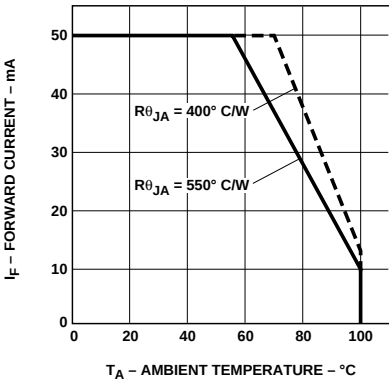

Figure 6. Maximum Forward DC Current vs. Ambient Temperature. Derating Based on T_JMAX = 110°C.
3. Derate linearly as shown in Figure 6.